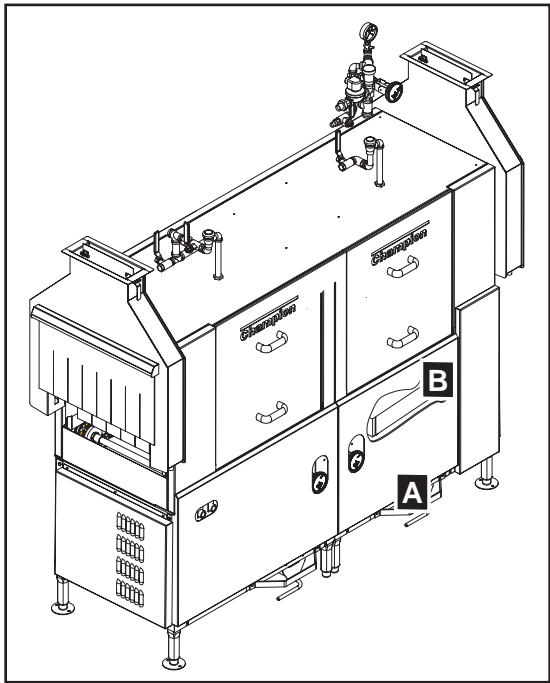

Fig. 9 -
4. Refer to Fig. 9 below. Remove the rinse tank front panel (A) and locate the junction box on the front of the tank.
5. Remove the junction box cover (B).